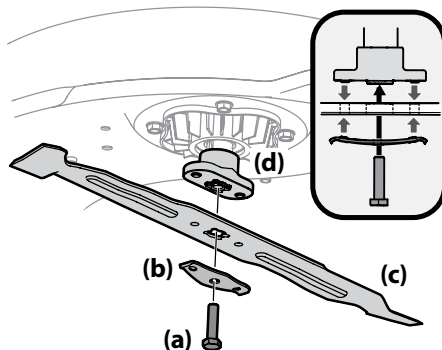

Figure 4-8
3. Remove the hex screw (a) and the blade bell support (b) which holds the blade (c) and the blade adapter (d) to the deck motor. See Figure 4-8.
4. Remove blade (c) and adapter (d) from the deck motor spindle See Figure 4-8.